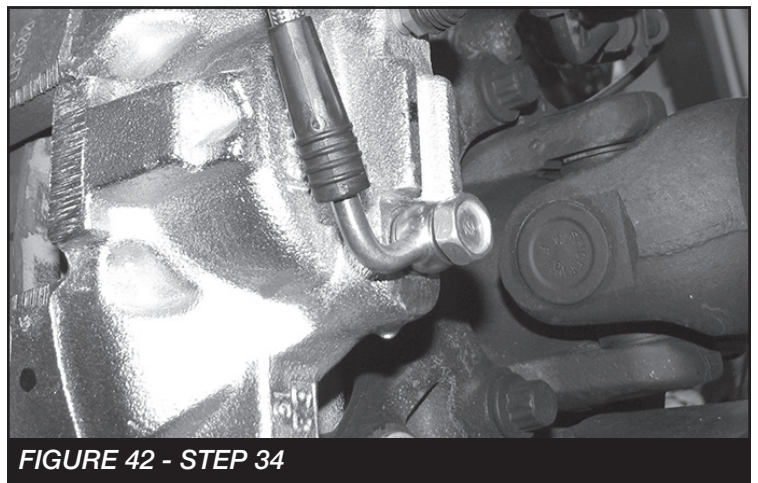

**FIGURE 40 - STEP 33**
33. Insert the new brake line fitting through the bracket and install onto the factory brake hard-line. Next, install the supplied u-clip to secure the line to the bracket. **SEE FIGURE 40**